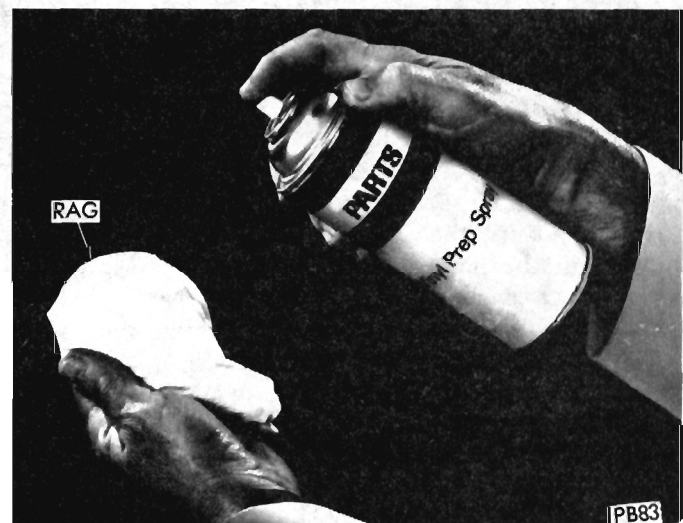

FIG. 3 Cleaning Area
(4) Clean area to be refinished with Chrysler Parts Leather Cleaner or equivalent and allow to dry (Fig. 3).